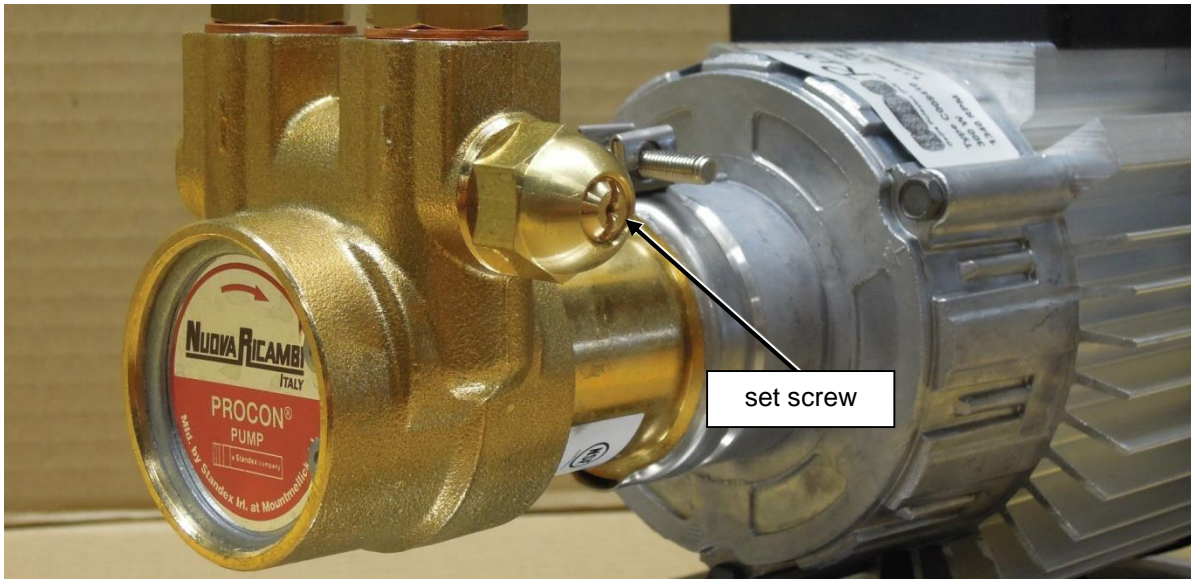

Figure 16. Showing the set screw on the pump to change pump pressure.
The pressure at the outgoing side of the pump is proportional to the pressure at the ingoing side of the pump (the pump simply multiplies the incoming pressure by a set amount). Therefore, you should check and possibly adjust the pump pressure after installation. Adjustments are made by turning the set screw on the right hand side of the brass pump housing (see Figure 16).
4. To increase the pump pressure turn the set screw in the pump housing clockwise (see Figure 16). Turn the screw counter-clockwise to decrease the pump pressure.